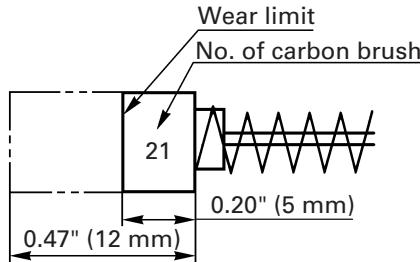

Fig. 10
4. Inspecting the carbon brushes (Fig. 10)
NOTE: Use HITACHI carbon brush No. 21 indicated in Fig. 10.